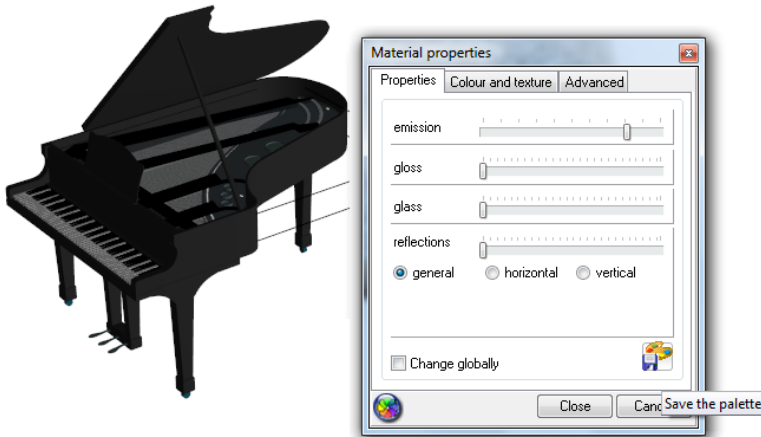

Fig. 166 - object with attributed textures, defining the properties and saving the palette
- in a new dialog box define the properties of the object accordingly to your needs and preferences (Fig. 166);